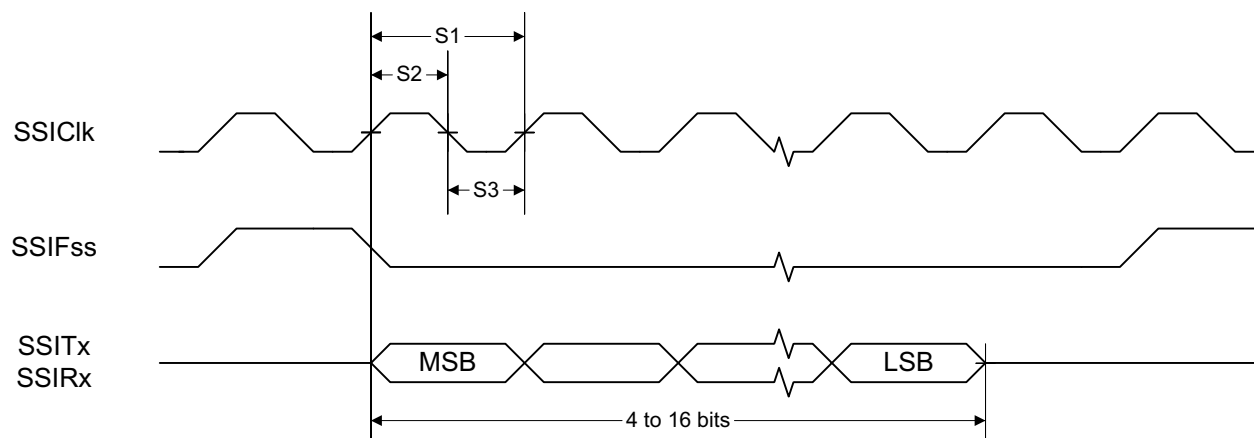
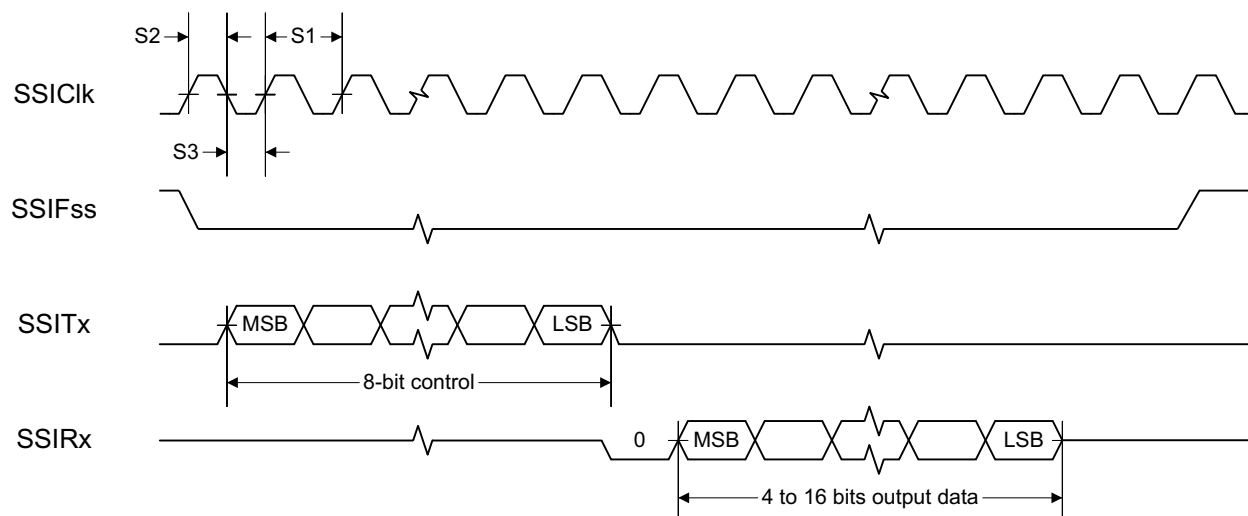
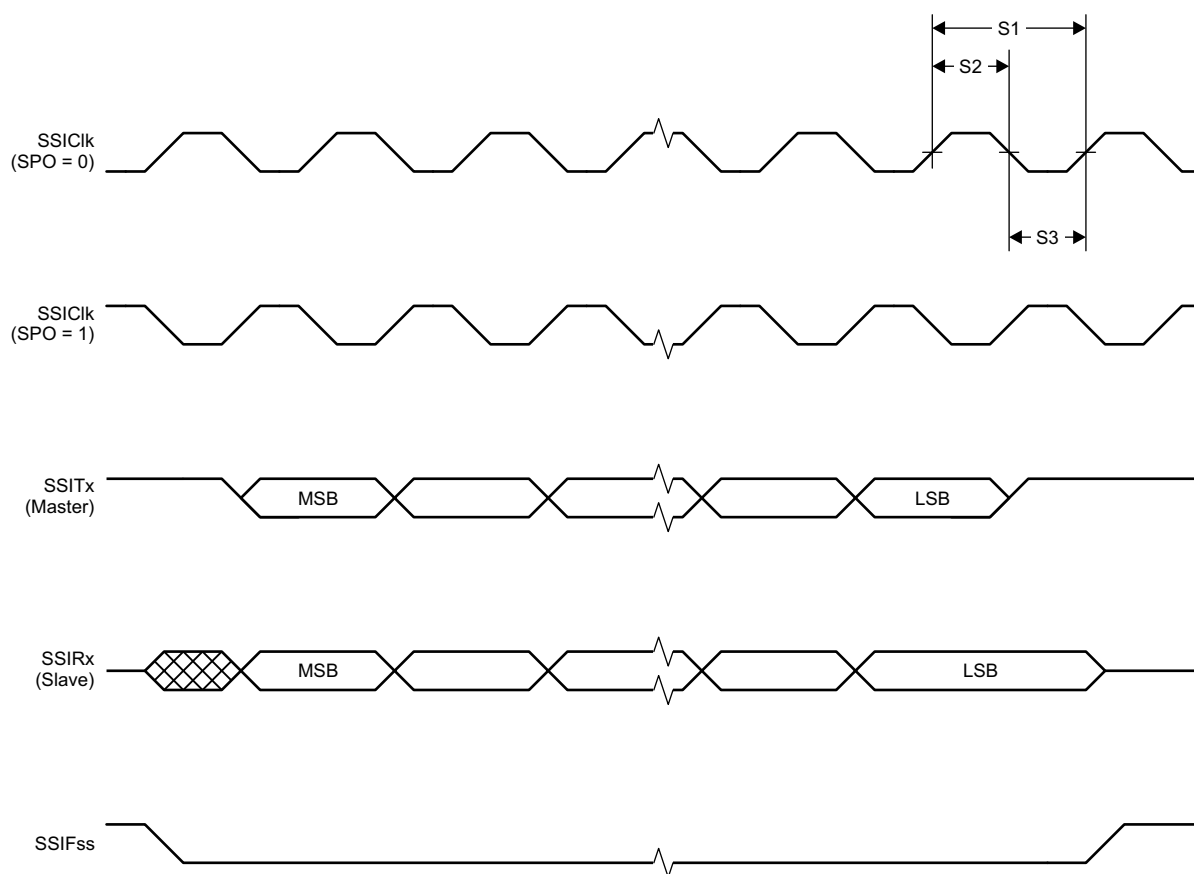

Figure 5-1. SSI Timing for TI Frame Format (FRF = 01), Single Transfer Timing Measurement
Figure 5-2. SSI Timing for MICROWIRE Frame Format (FRF = 10), Single Transfer
Figure 5-3. SSI Timing for SPI Frame Format (FRF = 00), With SPH = 1
- (2) Applications using RCOSC_LF as sleep timer must also consider the drift in frequency caused by a change in temperature (see Section 5.11).
- (3) T_A = -40°C to 85°C, V_{DD}S = 1.7 V to 3.8 V, unless otherwise noted.
- (4) T_C = 25°C, V_{DD}S = 3.0 V, unless otherwise noted. Device operating as SLAVE. For SSI MASTER operation, see Section 5.21.
- (5) Refer to SSI timing diagrams Figure 5-1, Figure 5-2, and Figure 5-3.
- (1) Device operating as MASTER. For SSI SLAVE operation, see Section 5.20.
- (2) Refer to SSI timing diagrams Figure 5-1, Figure 5-2, and Figure 5-3.